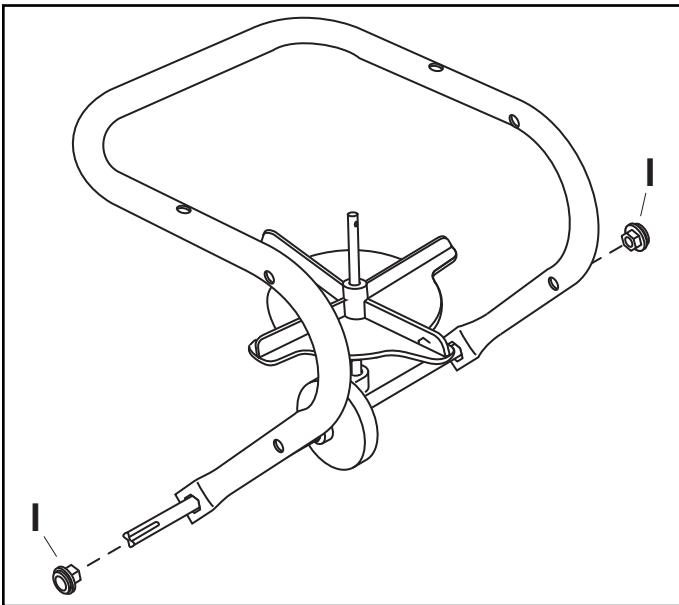

FIGURE 1
(2) 7/16" Wrenches
- Insert each side of the axle of the impeller assembly into the frame tube. See figure 1.
- Insert the two hex flange bearings (I) into the frame tube. See figure 1.